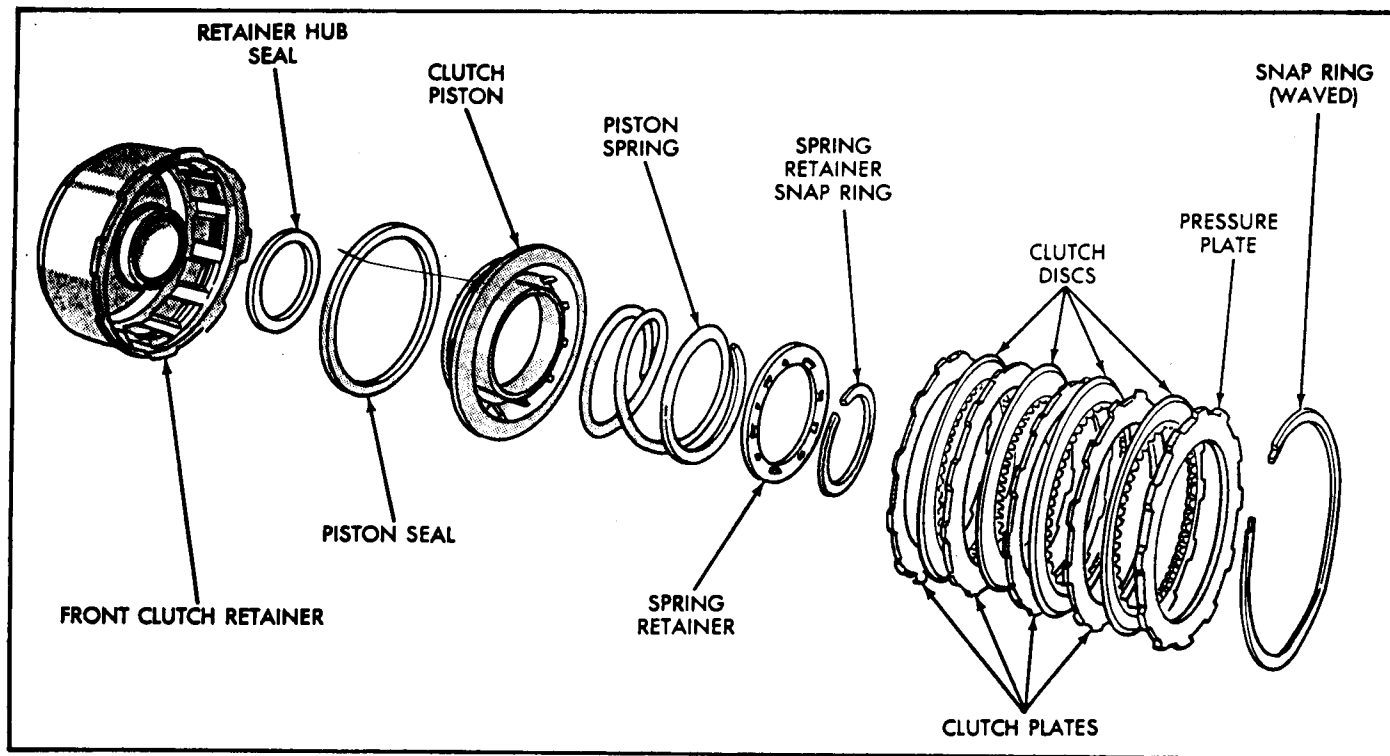

Figure 58
1. Clean the front clutch components with clean solvent and dry with compressed air (See Figure 58).
13. Install the clutch plates beginning with a steel plate and alternating with lined plates until you have installed four of each (See Figure 58).